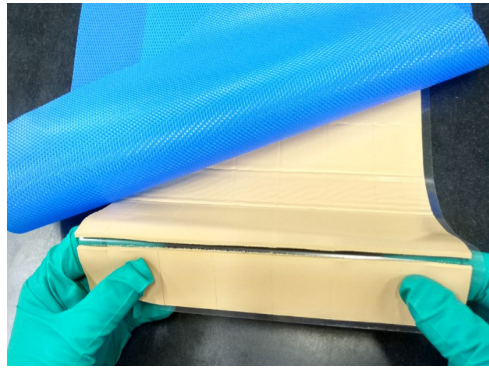

Fig.2
2. Fold the die cutting gap filler and push the gap filler from the corner to make it separate from the clear liner. (Fig.2)